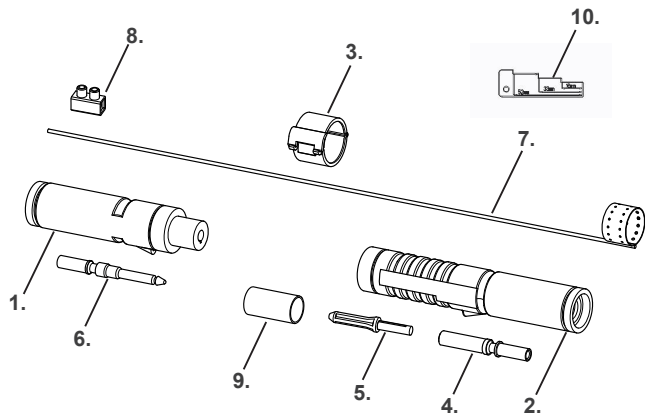

Figure 1A
- B. Check that all components are in the plastic bag as per figure 1A below.
Silicon grease, installation instructions and the components labeled in figure 1A below.